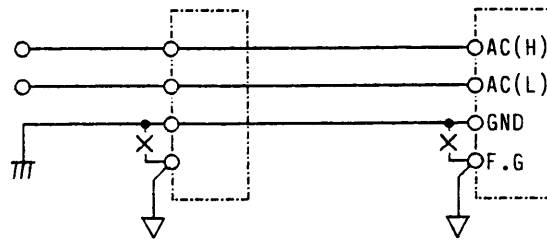

Figure 2-4
- When power supplies are connected, the leak current increased as above may flow through the equipment frames thereby causing noise. To prevent this, make open between the F.G and GND terminals and connect the individual GND terminals to an earth with low impedance. (With this setup, the displacement current including a switching noise current can be prevented from flowing through the FG terminals.) See Figure 2-4.